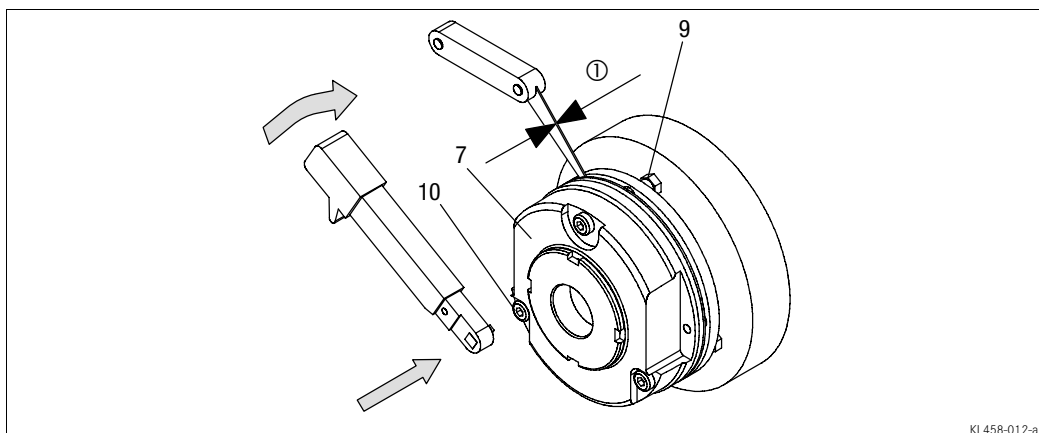

Fig. 8 Torque adjustment
- Tighten the screws (10) evenly (for torques see table chapter 3.3 and Fig. 8).
- Check the air gap " $s_{Lürated}$ " near the bolts (10) by means of the thickness gauge (" $s_{Lürated}$ " see table chapter 3.3 and Fig. 8).